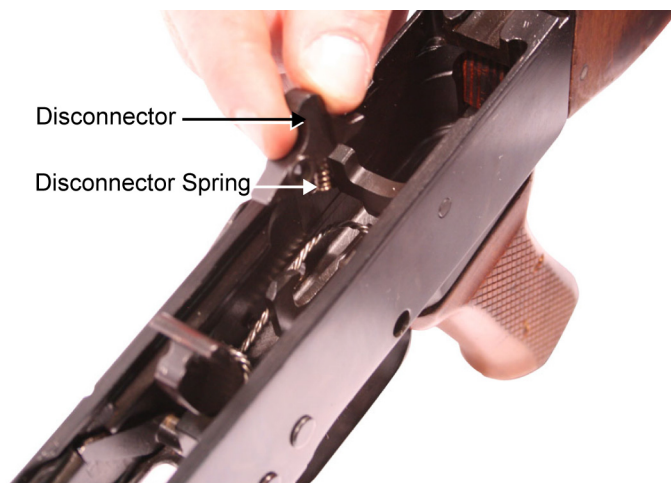

Figure 68. Installing the Disconnecter and Disconnecter Spring.
- i. Install the disconnecter into the trigger. Ensure that the hole in the disconnecter aligns with the holes in the trigger. Refer to Figure 68.